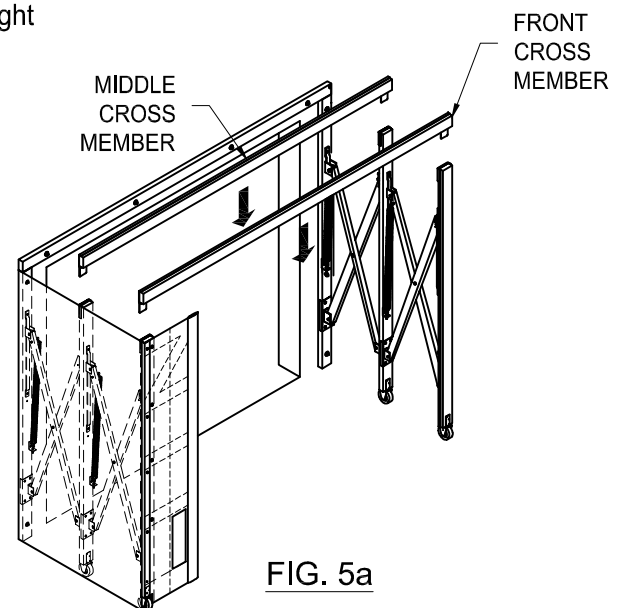

FIG. 5a
- * Connect front & middle header cross-members to left and right verticals by sliding tongues at each end of header cross-members into slots at top end of verticals (fig. 5a).